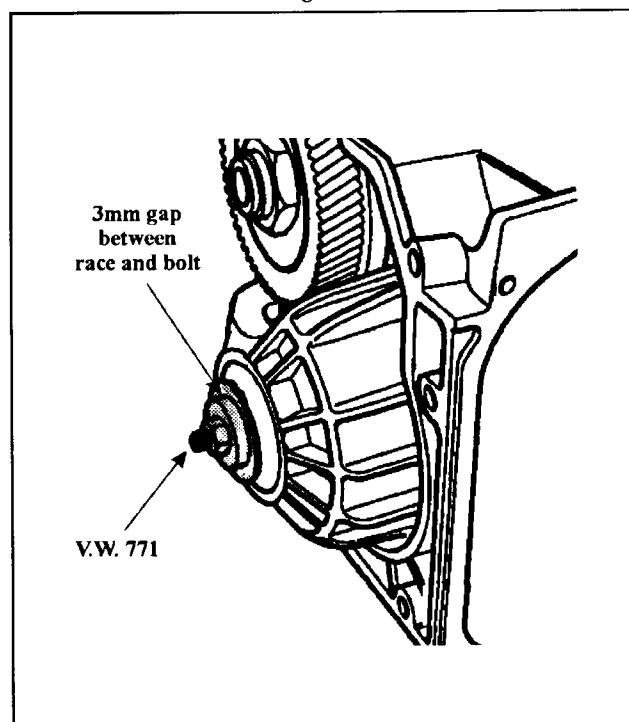

Figure 92
4. Using tool VW 771 or equivalent, carefully drive the output gear out up to the stop of the tapered roller bearing race (See Figure 92).